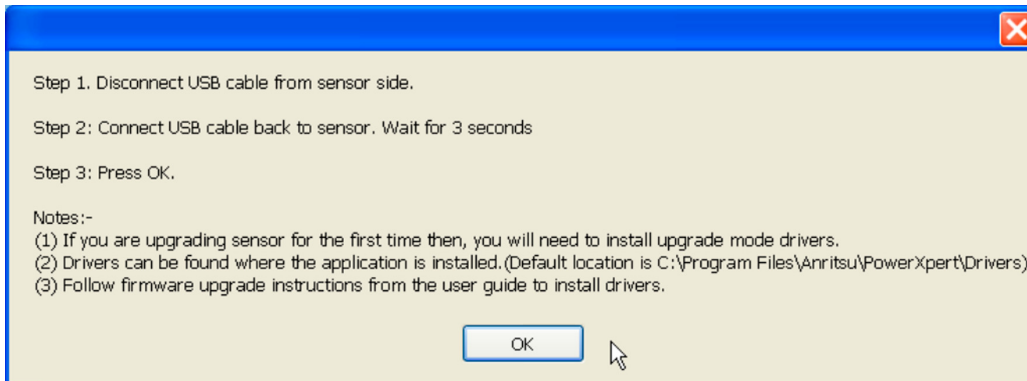
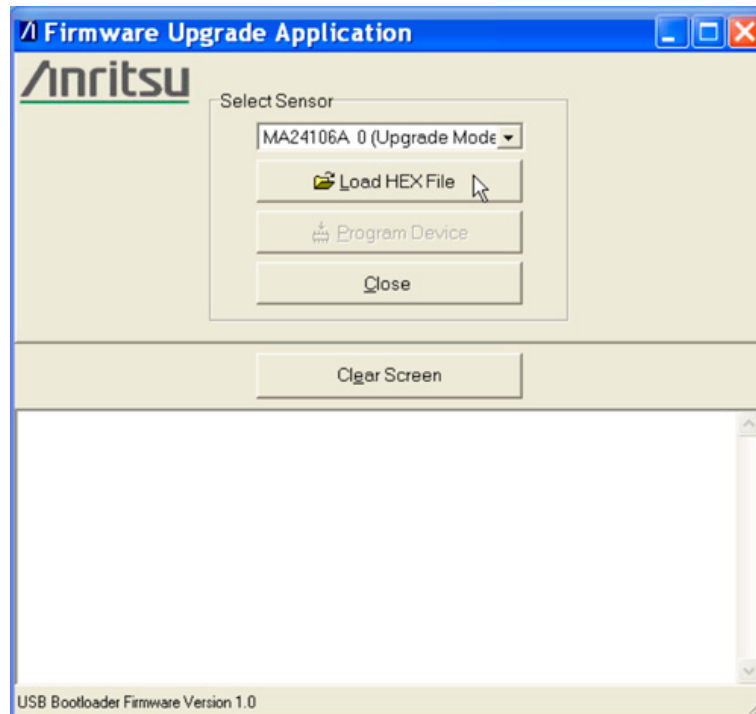

Figure B-8. Continuing with Firmware Update
Figure B-9. Firmware Upgrade Application
9. If the upgrade driver is installed, click **OK** (Figure B-8) to continue with the firmware upgrade. The Firmware Upgrade Application shown in Figure B-9 appears.